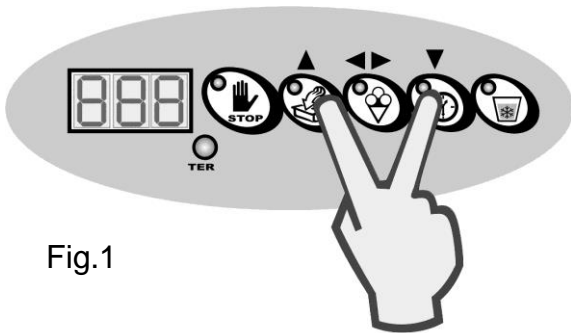

Fig.1
4. Press the **“UP”** and **“DOWN”** keys simultaneously until the password selection screen appears (fig. 1). Enter the password by increasing or decreasing the values via the UP and DOWN keys (FIG. 2), then press CONFIRM to validate the typed in password. If you do not know the password, contact the TAYLOR assistance service.